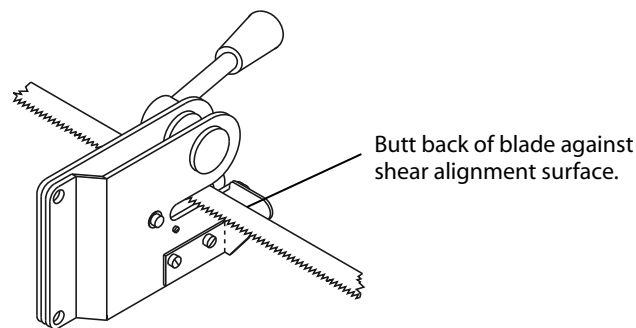

Figure 5 – Blade cutting.
Refer to Figure 5.
2. Lean the back of blade against the shear blade guide when cutting blade ends (See Figure 5).